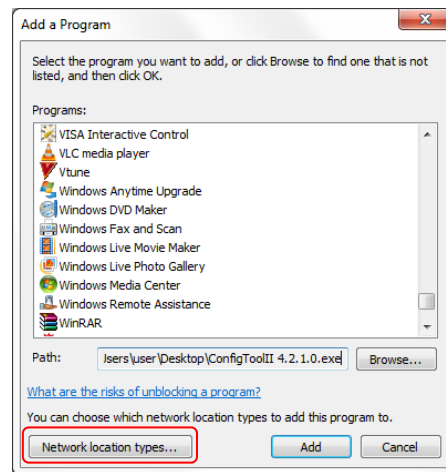

Figure 88 - Choose network location types
7. Click the “Network location types...” button. Refer to Figure 88.